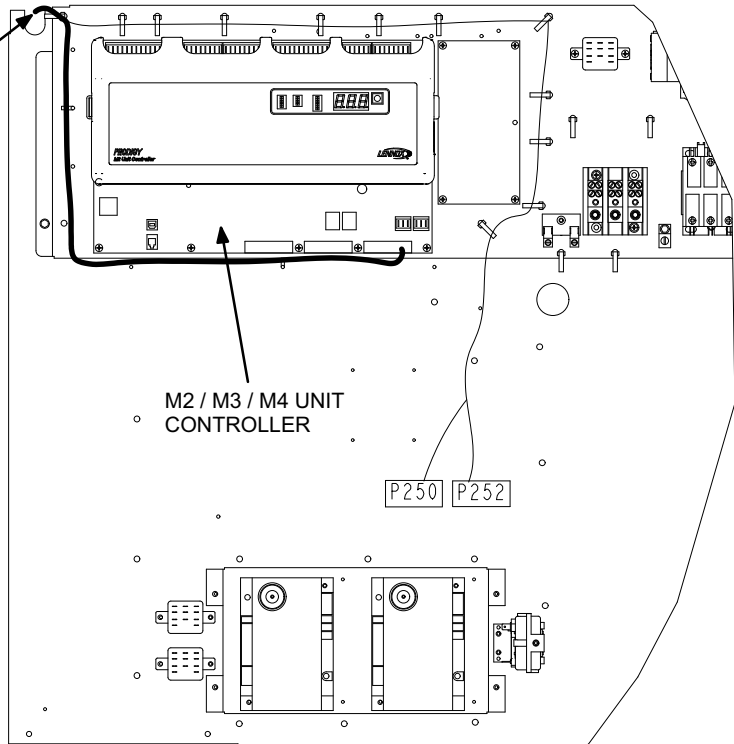
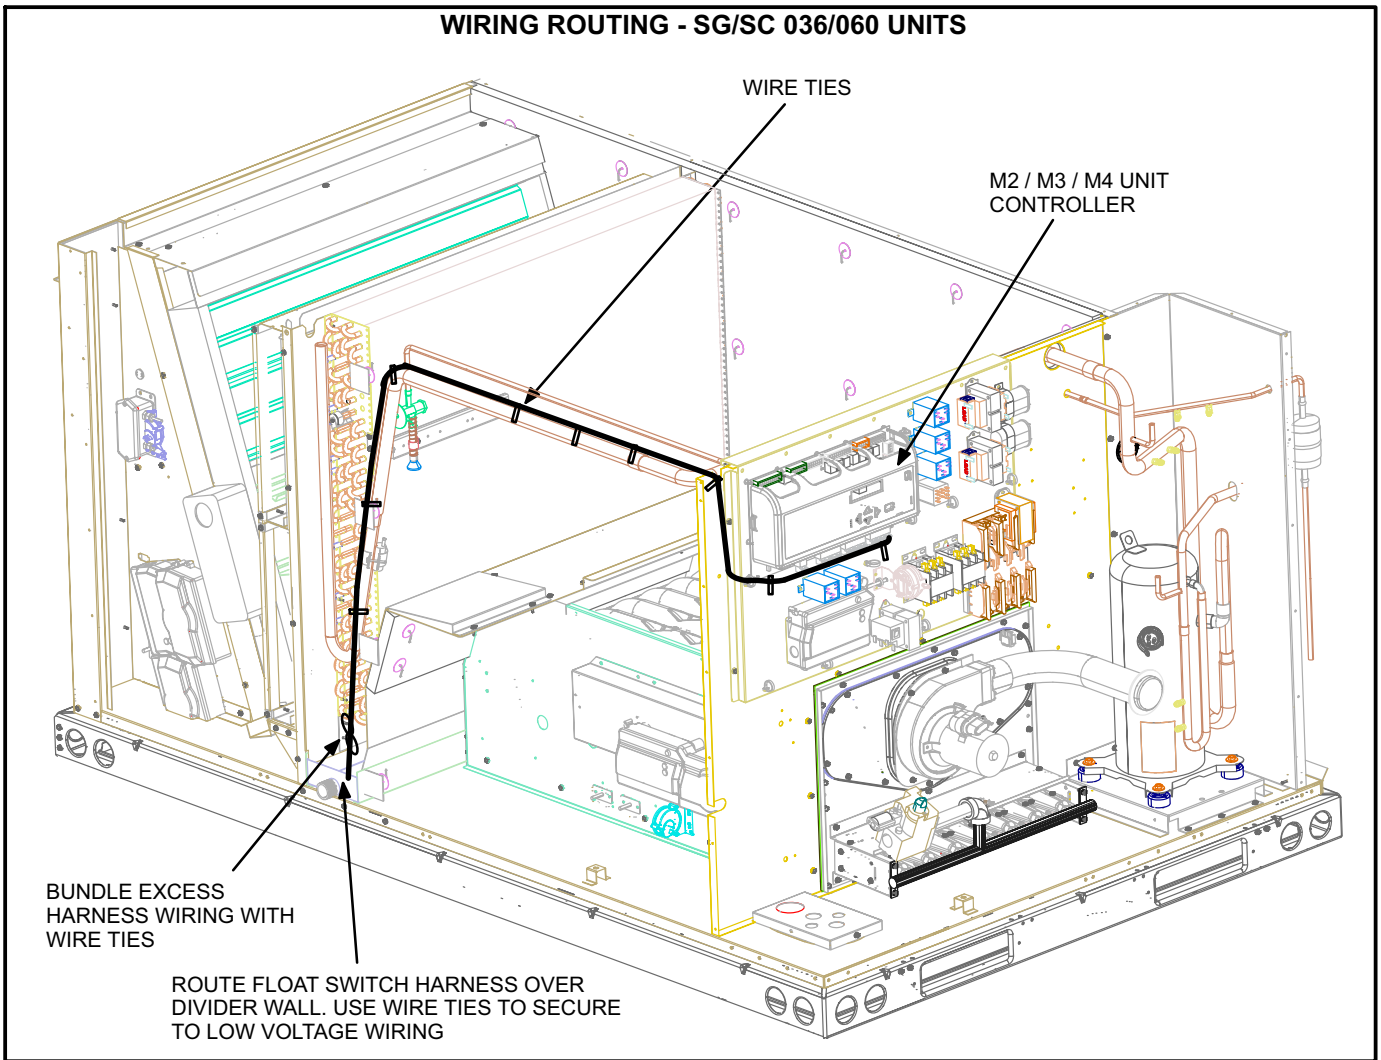
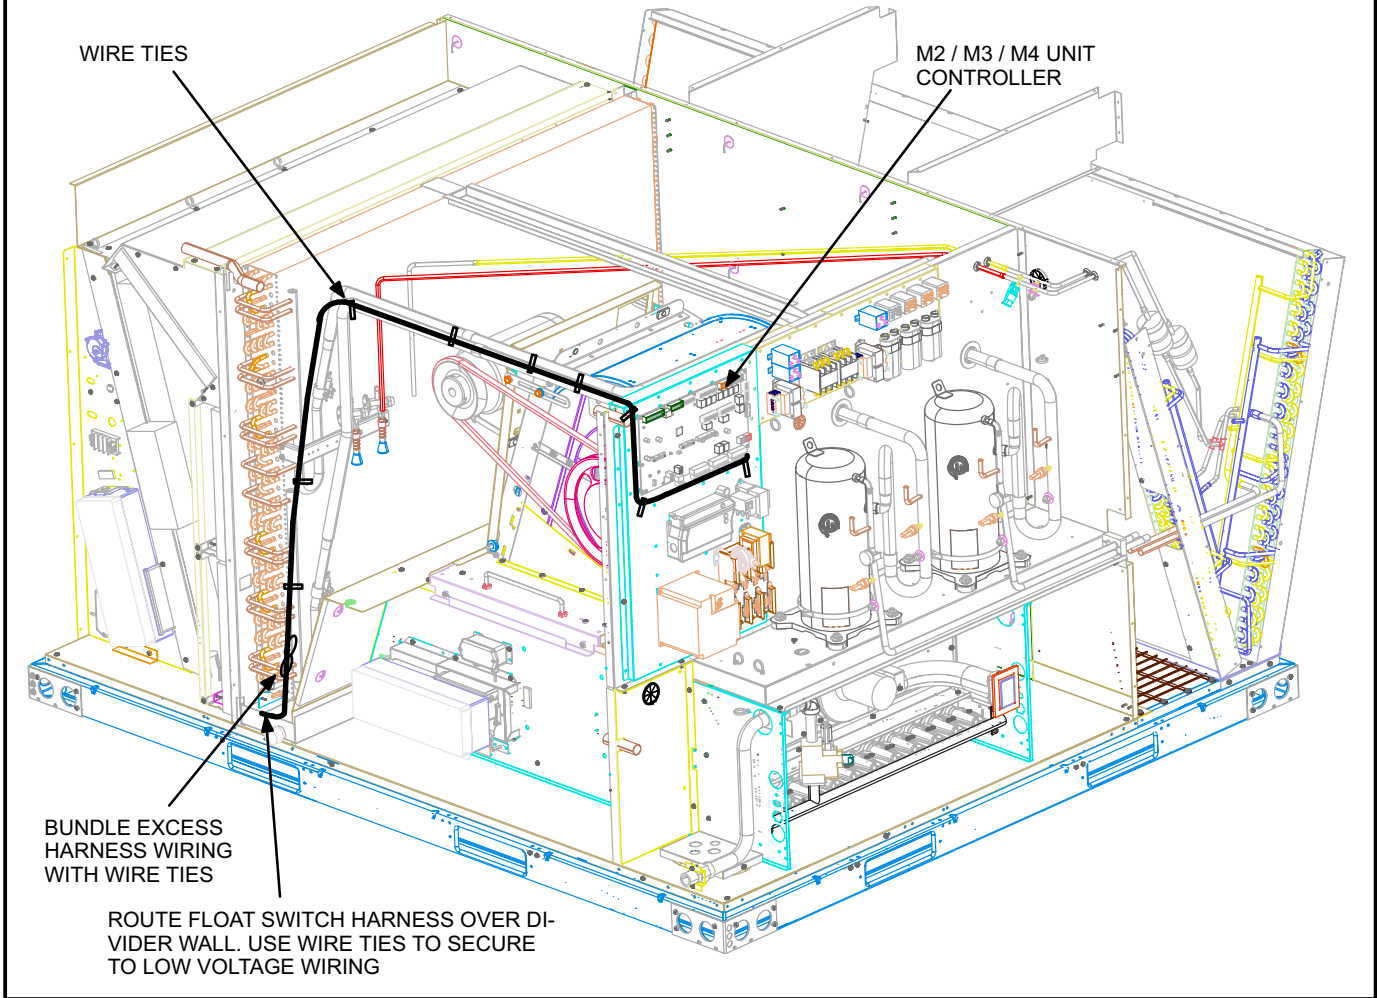

FIGURE 10
FIGURE 11
FIGURE 12
- 5- Route the other end of the harness to the float switch and secure with wire ties. See figure 8 for LG/LC/LH/LD 072 units, figure 9 for LG/LC/LH/LD 092-150 units, figure 10 for LG/LC/LH/LD 156-360 & SG/SC 240, figure 11 for SG/SC 036/060 and figure 12 for SG/SC 120 units.